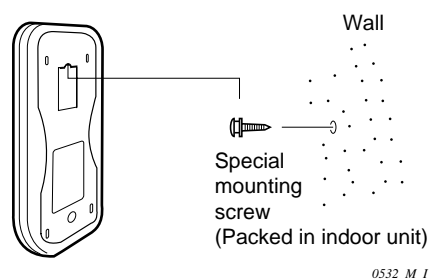

Fig. 4-1
- (c) After confirming correct operation, use a screwdriver to screw the supplied special mounting screw into the wall. (Fig. 4-1)
- (c) After confirming correct operation, use a screwdriver to screw the mounting screw into the wall. (Fig. 4-1)